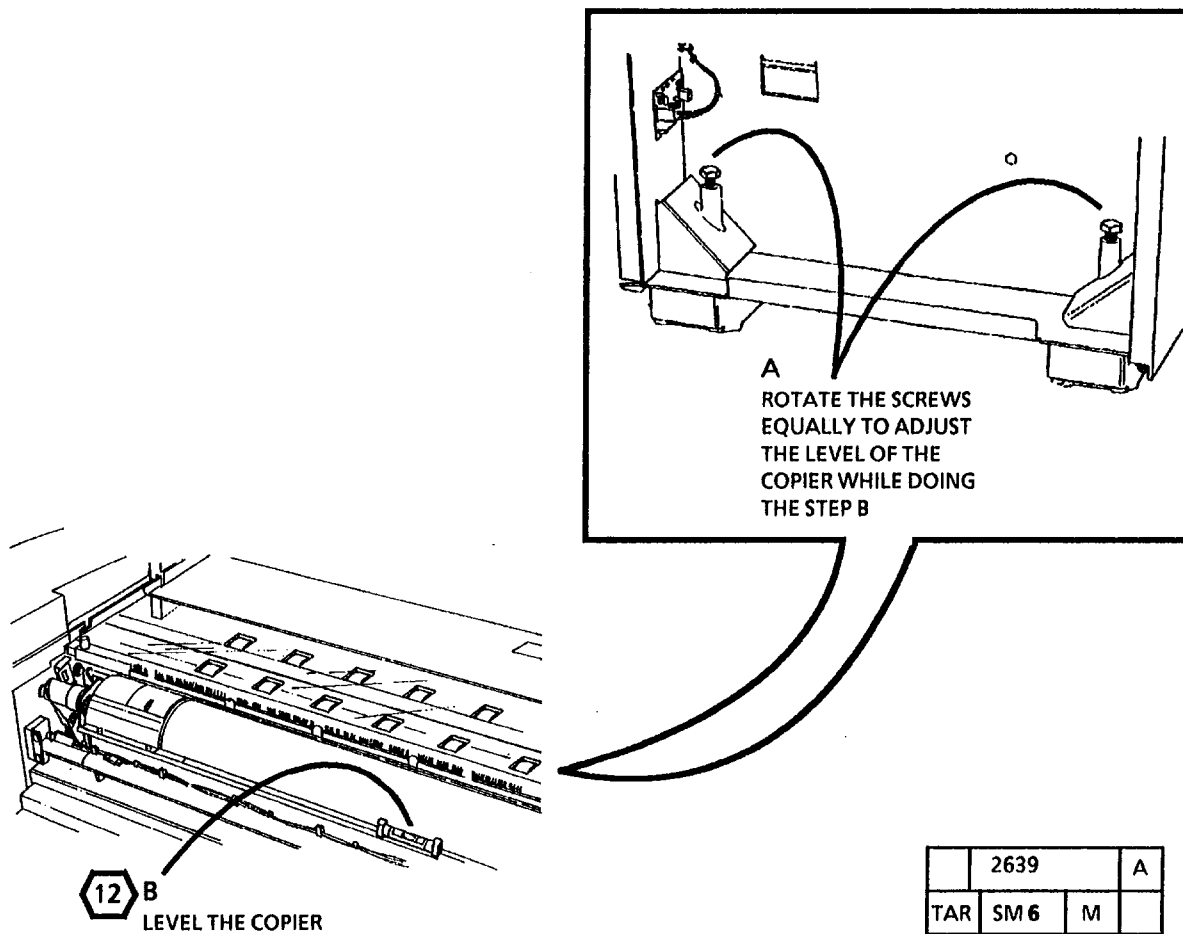

Figure 16. Adjust the side-to-side level
15. (Figure 16): Adjust the side-to-side level.